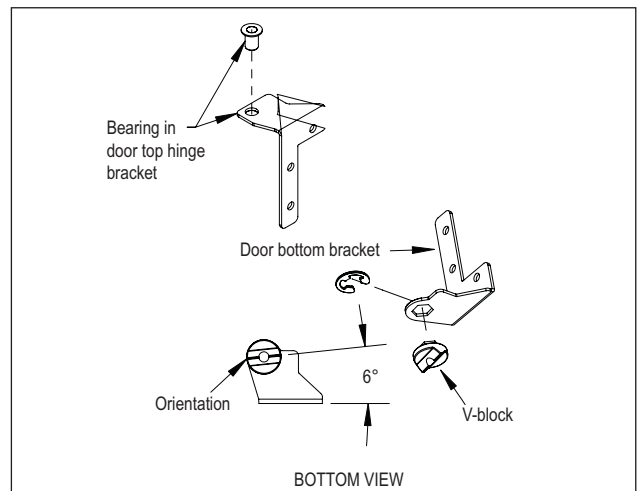

Figure 8. Bearing and V-Block
- Insert bearing into door top hinge bracket (Figure 8).
- Insert V-block into door bottom hinge bracket and attach with e-clip (Figure 8). Note the orientation of the V-block.